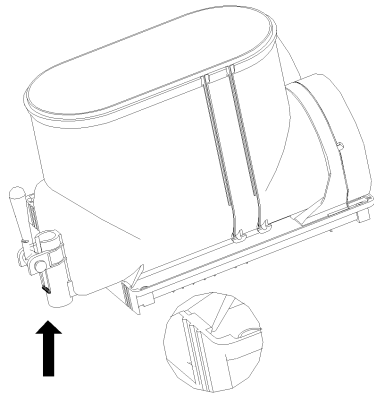

figure 1
3. Remove the bowl by lifting its faucet side up and off the fastening hooks(fig.1)and side it out(fig.2)